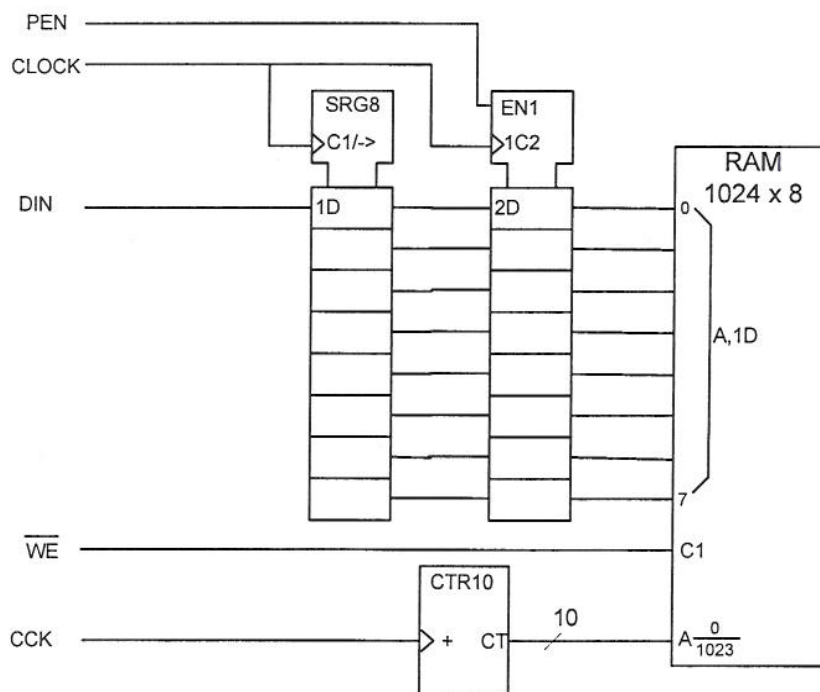

Figure 5.1
5. Figure 5.1 shows part of the input circuit of a logic analyser. The input signal DIN is sampled at 100MHz and eight successive samples are stored in the shift register. The contents of the shift register are then transferred to a holding register and are written into the memory at an address determined by the counter. The counter is then incremented by 1 in preparation for the storage of the next eight input samples.